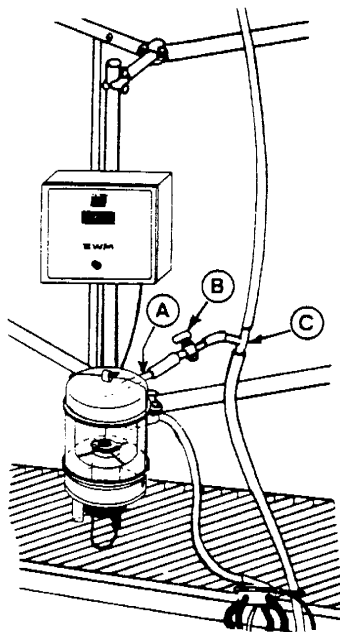

Fig. 3
1. It is essential that the EWM Flo-meter be mounted above the milk line (Fig. 3) in a level position.
- Cut a piece of  $\frac{5}{8}$ " milk hose 2" to 3" in length and attach to water inlet on cover. (See A, Fig. 3) Attach the 711012 valve, included, to the end of the hose. (See B, Fig. 3) Splice in the 256946 plastic tee in an appropriate location between the 711012 valve and the C.I.P. unit washer. (See C, Fig. 3) With another piece of hose, connect the plastic tee and the valve.